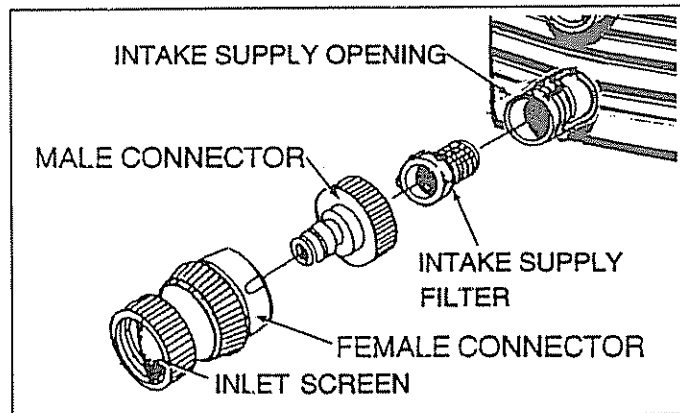

FIG. 1
- Included with this unit is a quick-connect fitting that you attach to the water inlet. It can separate into two parts — a male connector and a female connector that contains an inlet screen. Make sure this screen, as well as the intake supply filter, is clean. Attach the male connector of the quick-connect to the intake supply opening on the front of the pump (Fig. 1). The water supply will be attached to the female connector.